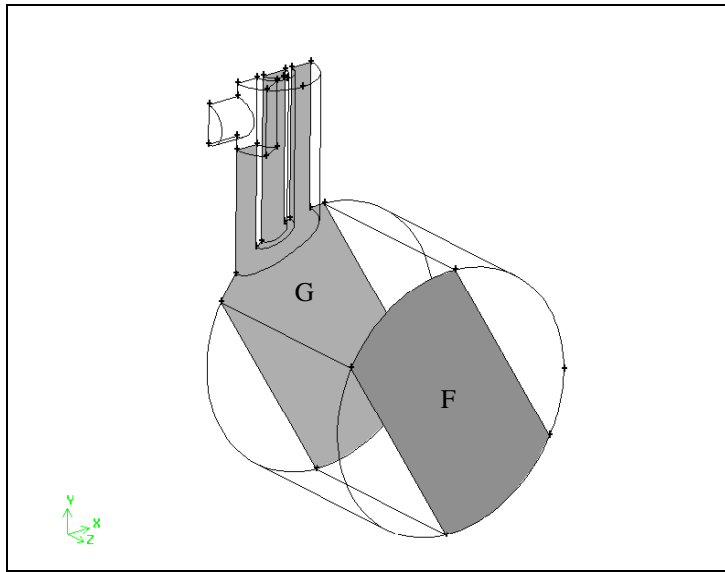

Figure 7-39: Faces to be modified
1. Set the meshing scheme to be Submap for the faces marked F and G in Figure 7-39.
- a) Select the faces marked F and G in Figure 7-39 in the graphics window.